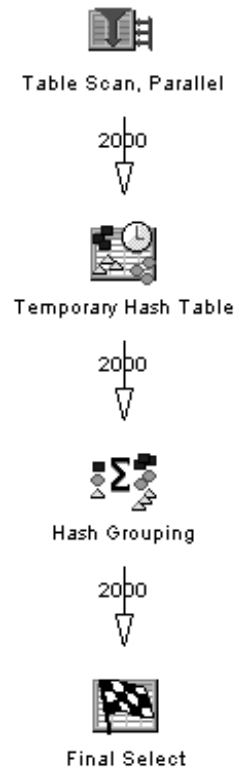

Figure 9. Hash Group By
- __ 3. Verify that the graph you received resembles the example shown in Figure 9.